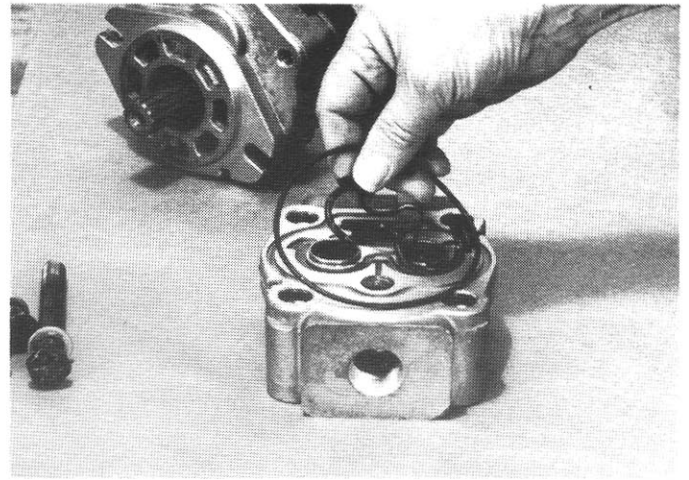

Fig. 7
7. Remove body o-ring (6), pressure balance o-ring (5), and back-up ring (4). (Fig. 7)